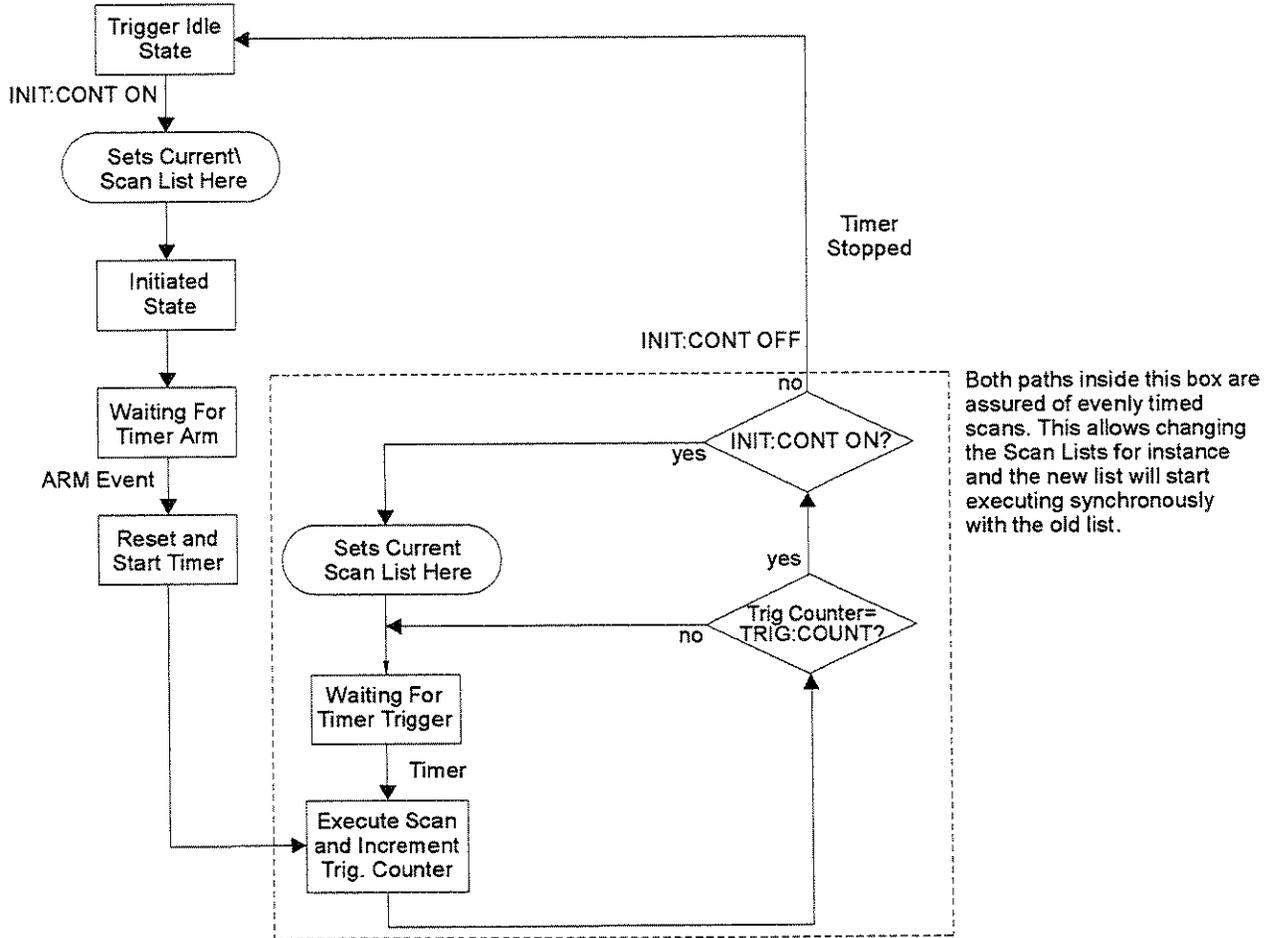

Figure 5-8. Synchronous Mode Sequence
- Use TRIGger:TiMEr:MODE SYNC with INITiate:CONTinuous ON when you want to be able to change the Scan List while performing synchronously timed scans. In SYNC mode a Timer Arm event immediately triggers a scan and starts the timer. When the trigger count is reached and INITiate:CONTinuous is ON, the trigger timer continues running, the current Scan List is read, and the module returns to wait for the next Timer trigger. See Figure 5-8 for operation.